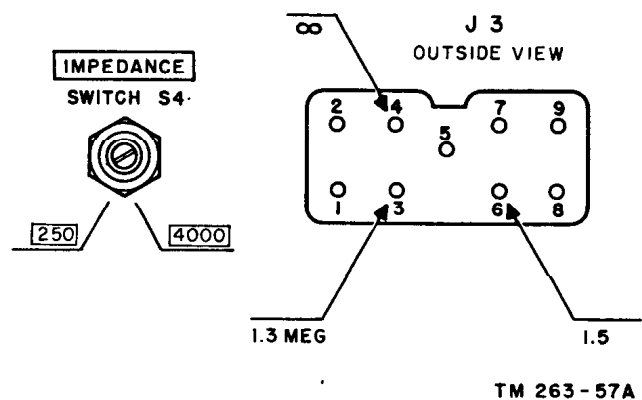

Figure 108. Receiver power receptacle J3 and IMPEDANCE switch S4 resistances to ground.
a. *Receiver Filament and Place Circuits* (figs. 66 and 67). Remove the receiver-transmitter interconnecting cable from the socket in back of the receiver chassis. The resistance to be obtained between ground and terminals 3, 4, and 6 are shown in figure 108. The reading between ground and terminal 6 will be obtained only if a headset is plugged in J1 or J2. If the headset is not plugged in, the reading from ground to terminal 6 will be infinite. If these readings are not obtained, *do not* apply power to the radio set, but trace the circuits to see where the shorts or opens are located. If this is not done, the power supply may be damaged.